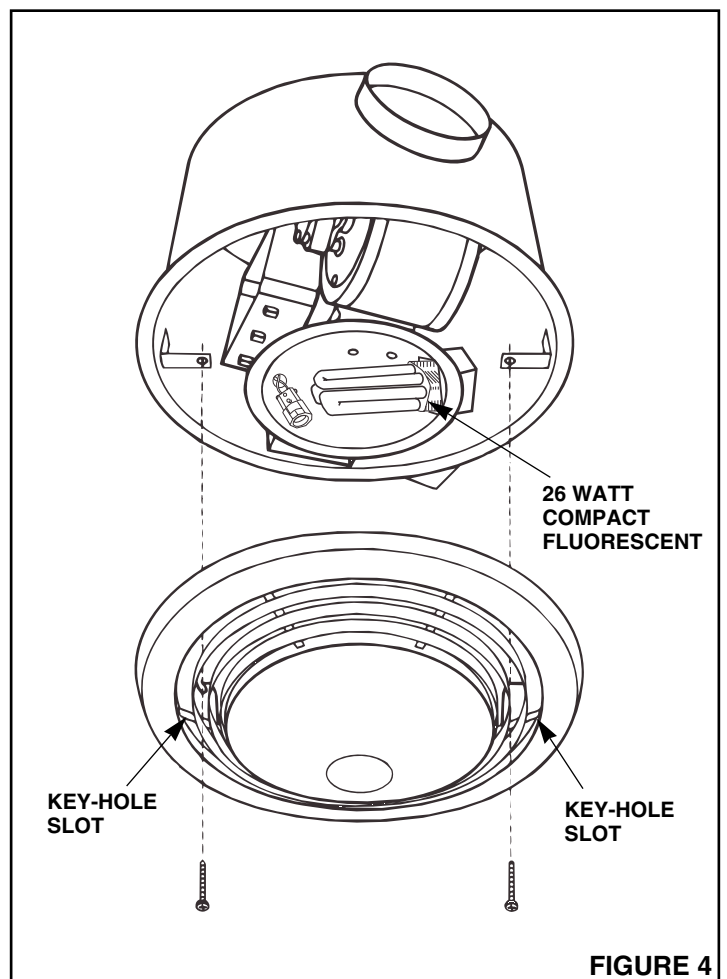

FIGURE 4
4. Refer to **Figure 4**. Install 26W fluorescent lamp (NEMA type CFM26W/GX24D/827) into socket. (Lamp not provided)